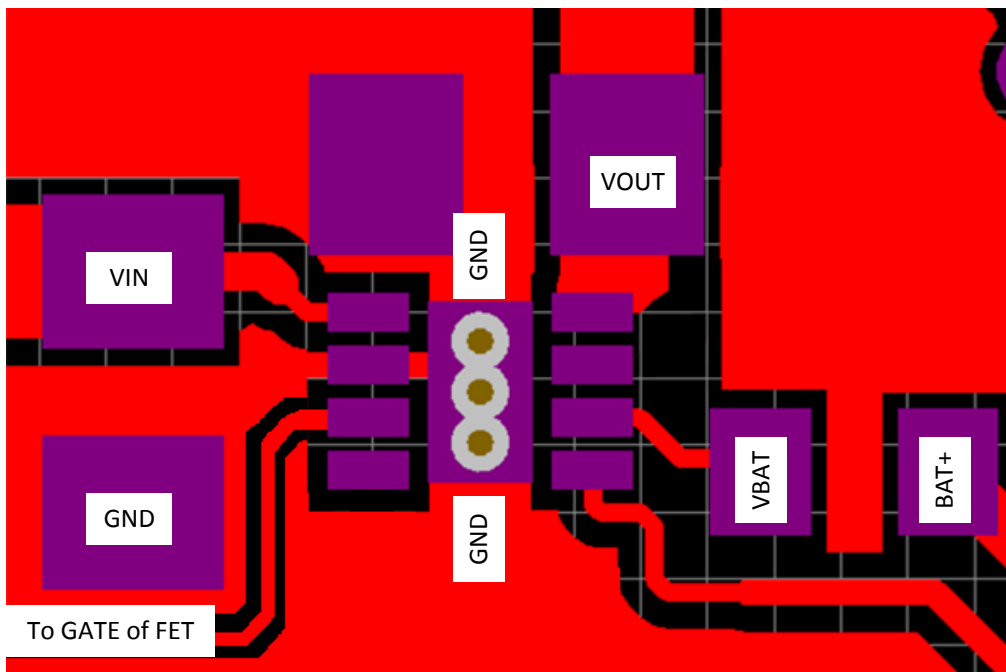

Figure 24. Layout Example Recommendation
- This device is a protection device, and is meant to protect down-stream circuitry from hazardous voltages. Potentially, high voltages may be applied to this device. It must be ensured that the edge-to-edge clearances of PCB traces satisfy the design rules for the high voltages. See Figure 24.